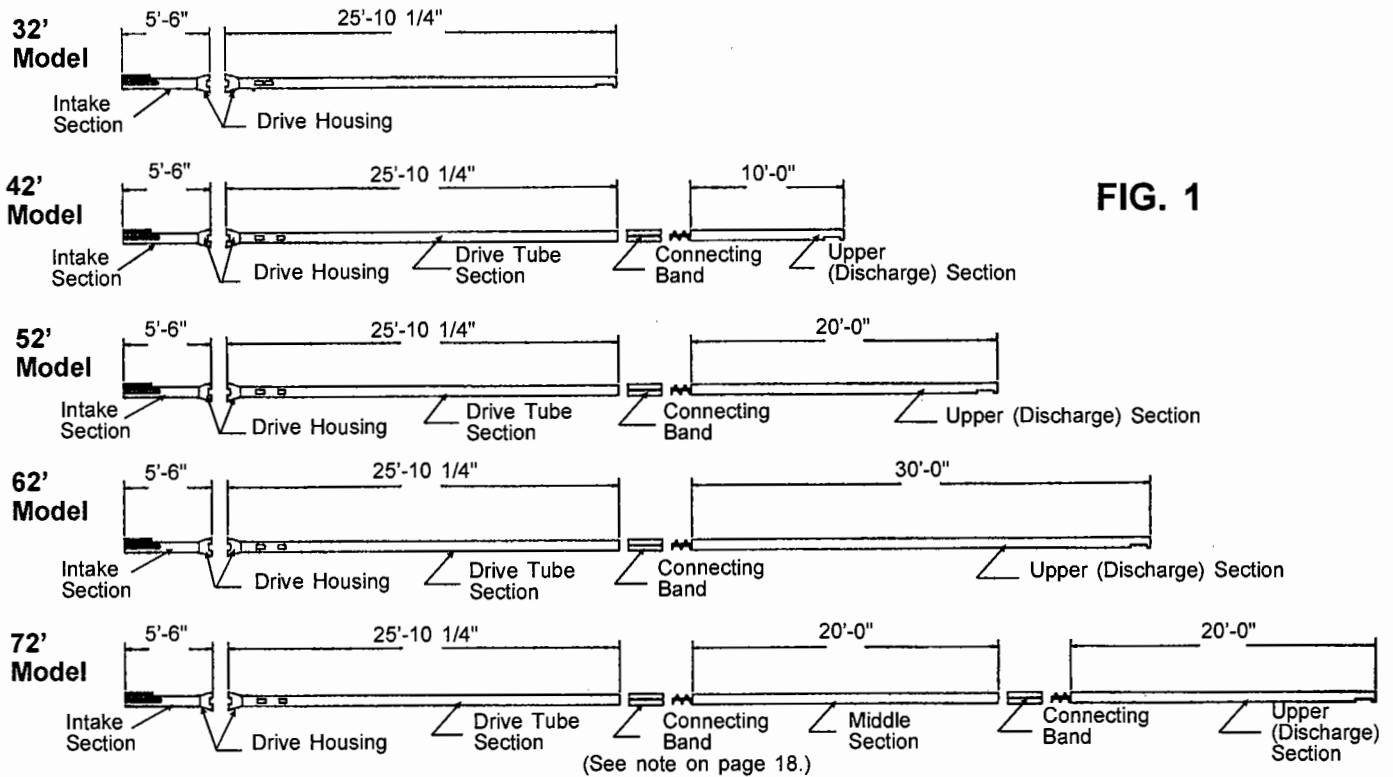

FIG. 1
Choose an area on open level ground accessible to chain hoist or other lifting devices where the auger may be laid out full length. Arrange the tube sections in their relative positions. See Fig. 1. For ease of assembly, place the tubes on stands or blocks so the drive housings are off the ground with the tubes level. **NOTE:** Orient the 25'-10 1/4" tube sections so the decals are right side up and readable.
1. Before joint any flights, slide a connecting band onto the lower tube wherever tubes will be banded. See Fig. 1. Flights located above the gearbox can then be bolted together using 7/16" x 3" long (grade 8) hex head capscrews with locknuts.
1. Before joining any flights, slide a connecting band onto the lower tube wherever tubes will be banded. See Fig. 1 on page 18.